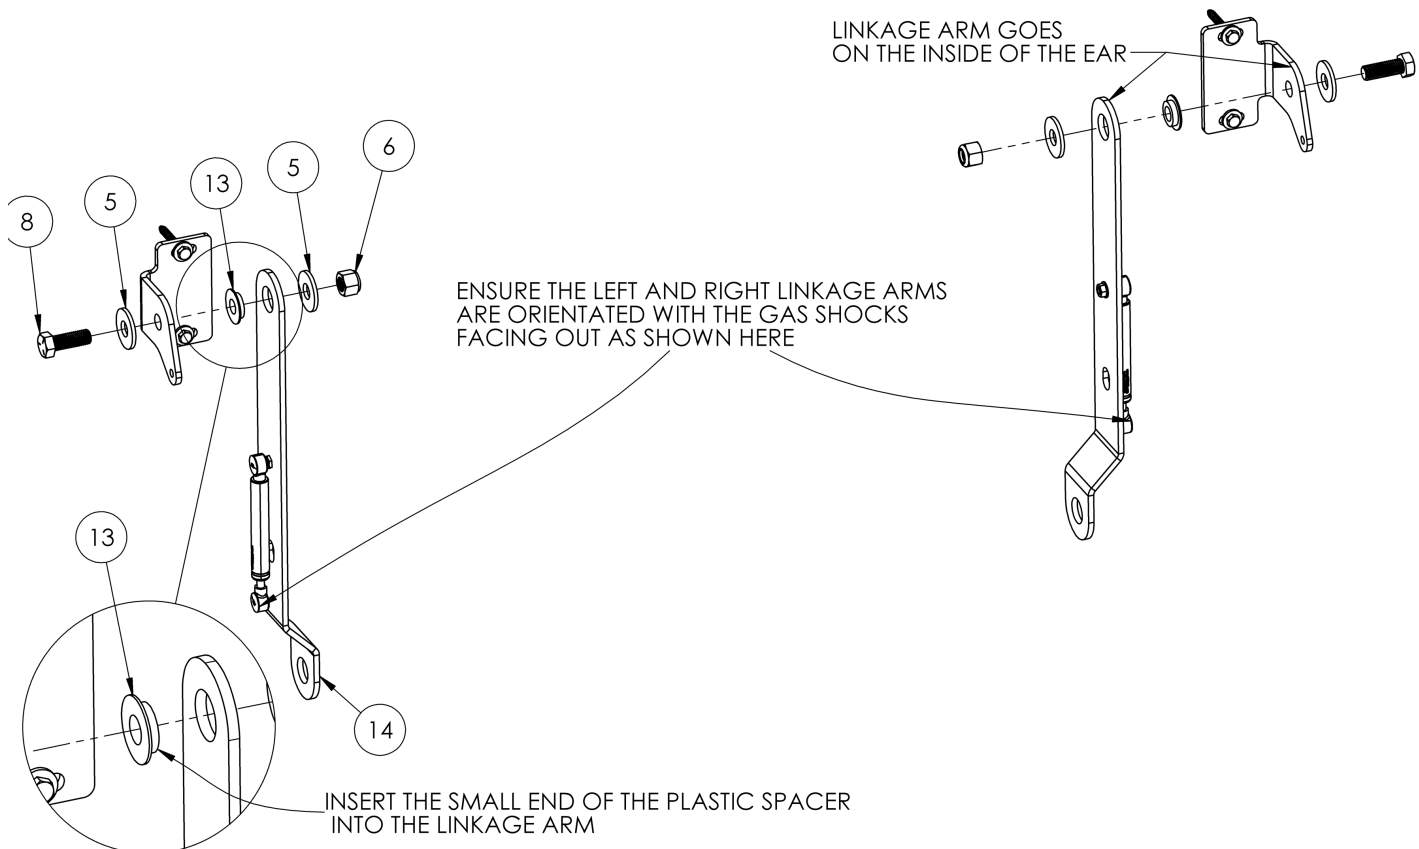

Figure 6: Bolting on the Linkage Arms
1. Place the small side of the plastic spacer (13) into the linkage arm (14) (**Figure 6**).
3. Attach the linkage arm to the wall bracket using a 1-3/4” hex head bolt (8) and 5/8” washer (5) on the outside of the wall bracket “ear” and a 5/8” washer (5) and 5/8” lock nut (6) on the inside of the linkage arm.